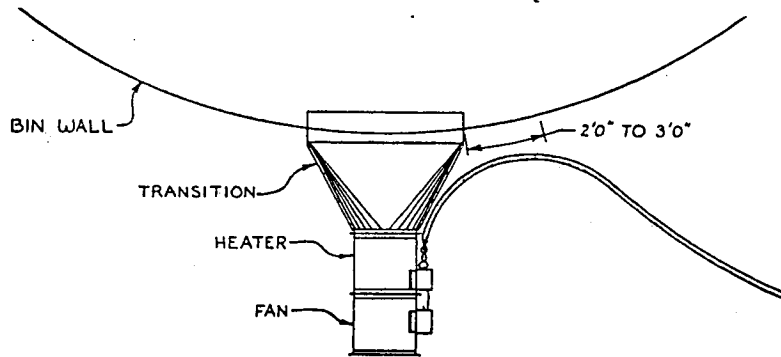

FIGURE 1. LOCATION OF HUMIDISTAT/THERMOSTAT CONTROL
1. Approximately two (2) to three (3) feet from edge of transition and approximately half way between ground level and drying floor, locate a point on outside of bin wall. (Figure 1) Location point may be varied to allow clean air flow to control. Do not have control located such that substructure will block air movement to control.